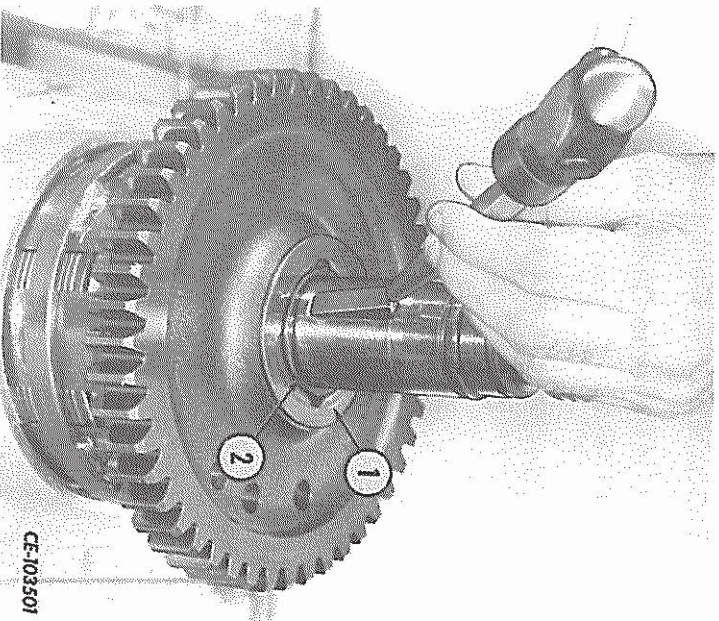

FIG. 66 — Installing the Gear Key (Forward Clutch Shaft Shown, Reverse Clutch Shaft Similar)
22. **FORWARD CLUTCH SHAFT:** Install the second speed gear thrust washer (1, Fig. 66), snap ring (2) and gear key on the shaft.
REVERSE CLUTCH SHAFT: Install the second speed gear thrust washer (1, Fig. 66) and gear key on the shaft. There is no snap ring used on this shaft.